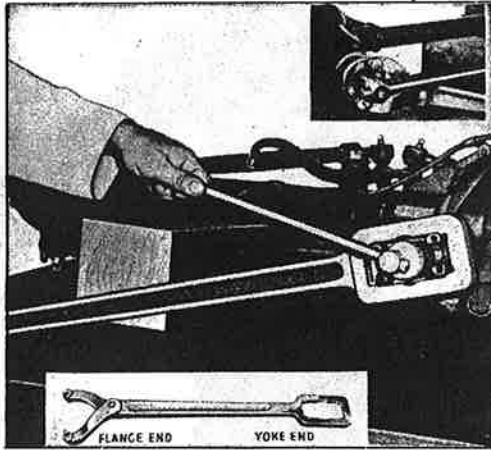
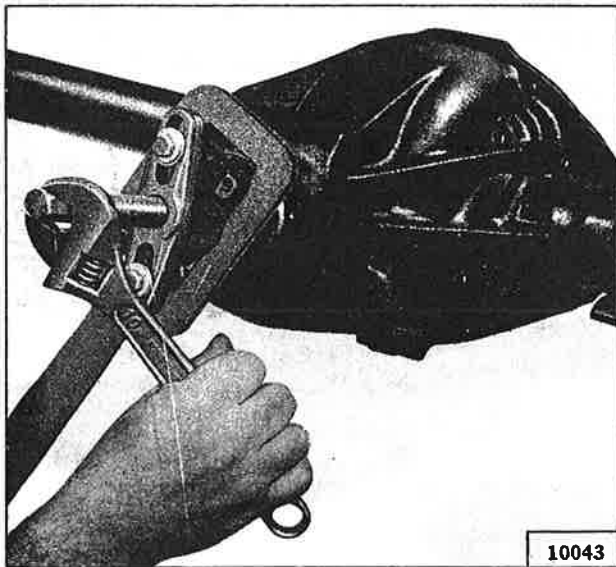

FIG. 242 FLANGE HOLDING WRENCH
FIG. 243—END YOKE PULLER
- h. To remove the drive pinion, first remove the universal joint end yoke assembly. Use Tool C-3281 to hold the shaft as shown in Fig. 242 while removing the nut. Use Puller, Tool W-172, or C-452 to remove the end yoke as shown in Fig. 243.